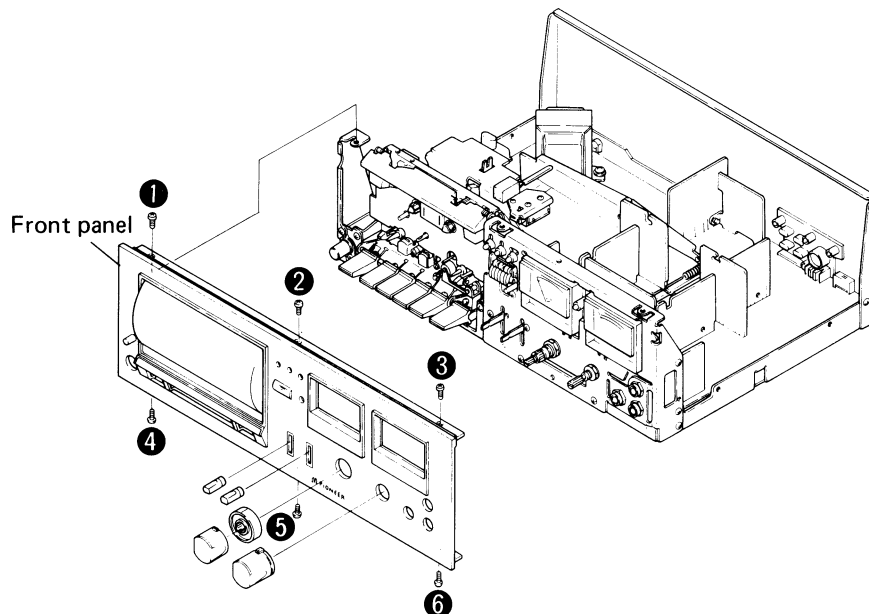

Fig. 23
2. Remove the front panel knobs and the six front panel mounting screws, three at the top and three at the bottom, and remove the front panel (Fig. 23).